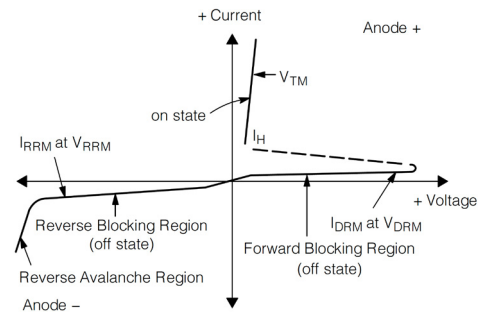

Figure 1.
- Ratings apply for $t_w = 1$ ms. See Figure 1 for I_{TM} capability for various duration of an exponentially decaying current waveform, t_w is defined as 5 time constants of an exponentially decaying current pulse.
4. Ratings apply for $t_w = 1\text{ ms}$. See Figure 1 for I_{TM} capability for various durations of an exponentially decaying current waveform. t_w is defined as 5 time constants of an exponentially decaying current pulse.